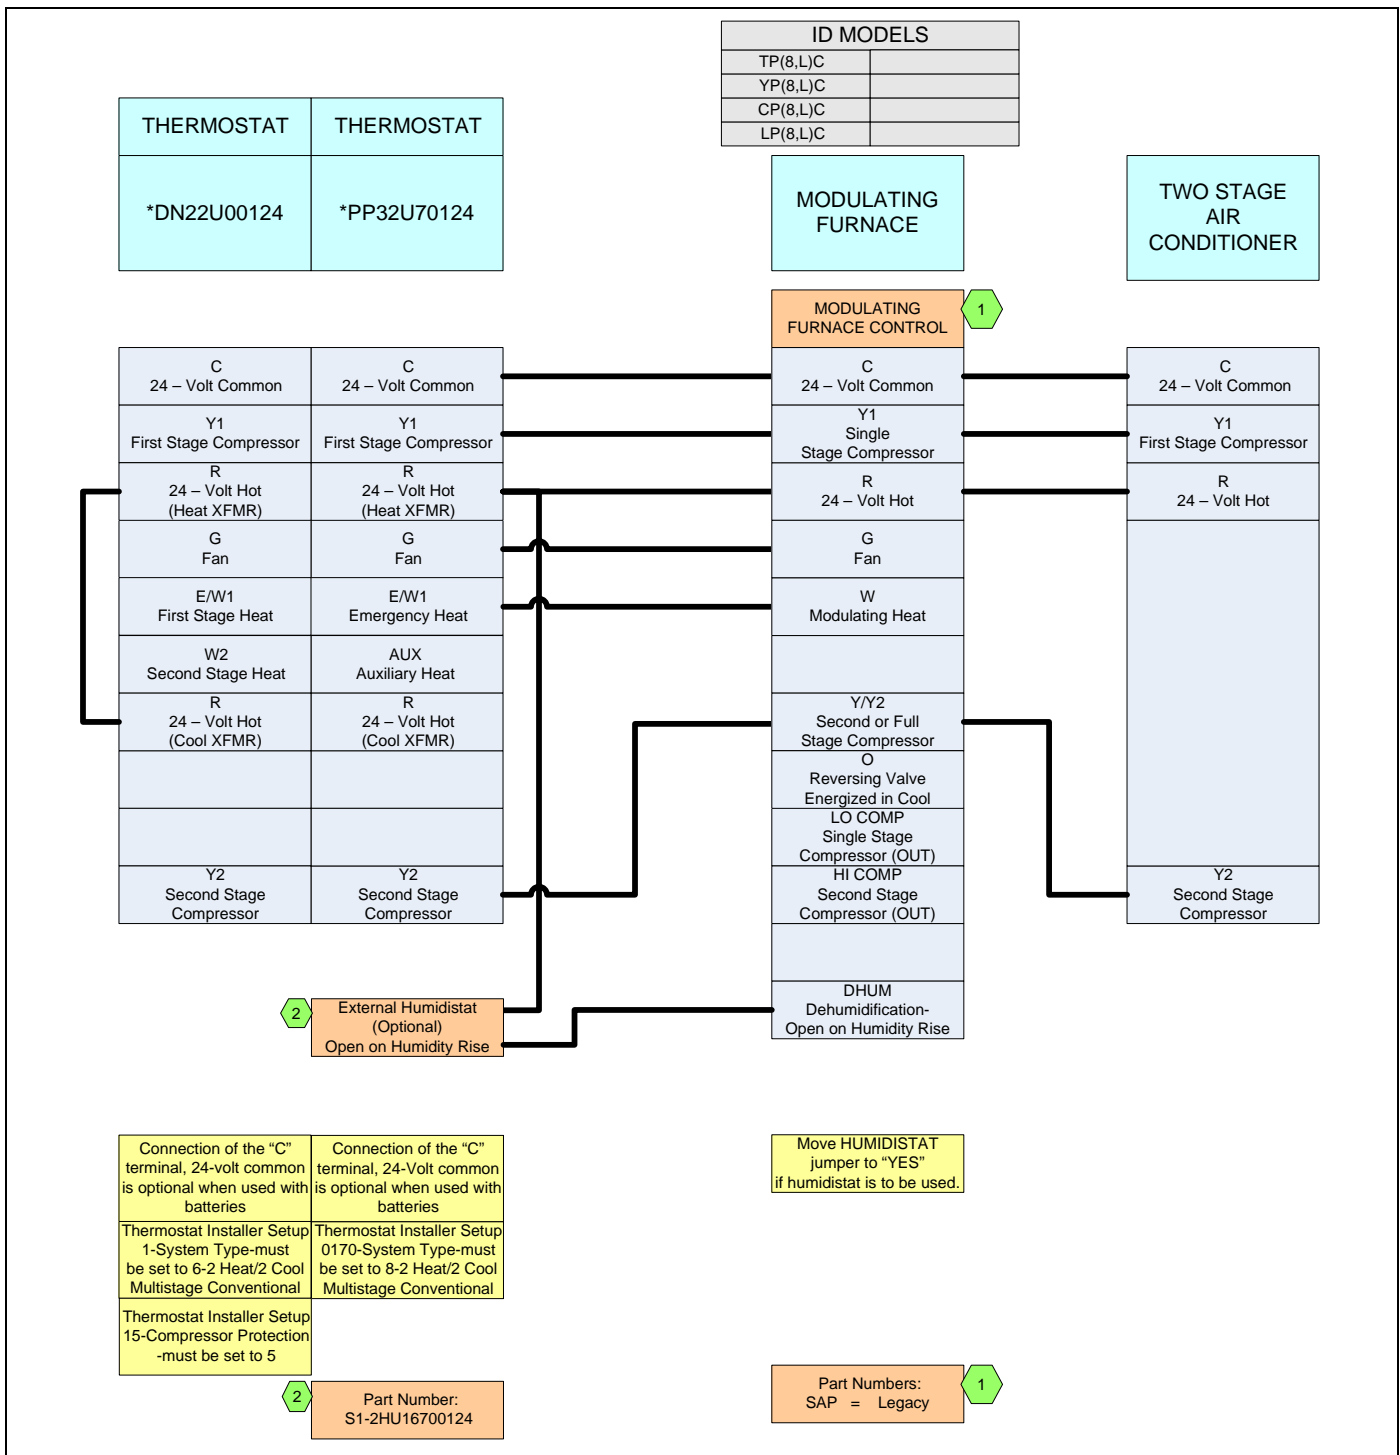

FIGURE 20: Thermostat Chart - Two Stage Air Conditioner – Variable Speed or PSC Modulating Furnace
**For Two-Stage A/C** - Use a two-stage thermostat, connect the low voltage wiring as shown in Figure 20, Thermostat Chart.
**For Two-Stage A/C using a Single-Stage Thermostat** - connect the low voltage wiring as shown in Figure 20, Thermostat Chart.